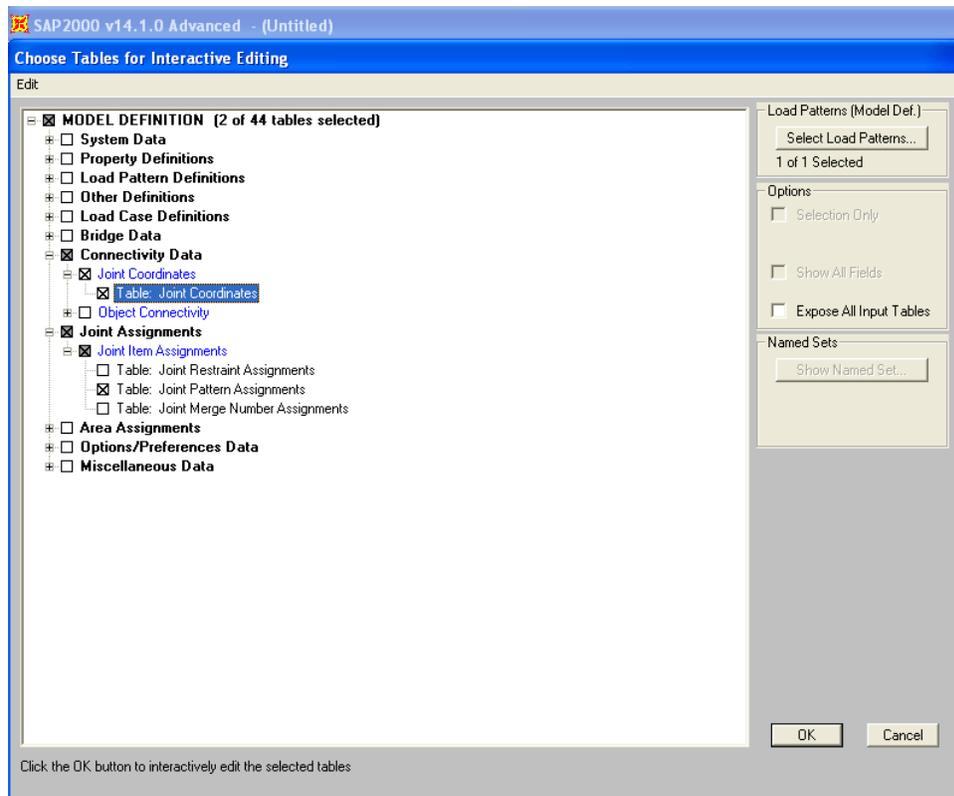

Figure 1 - Select database tables for interactive editing
2. Select Edit > Interactive Database Editing, then select the two tables listed below, as shown in Figure 1: